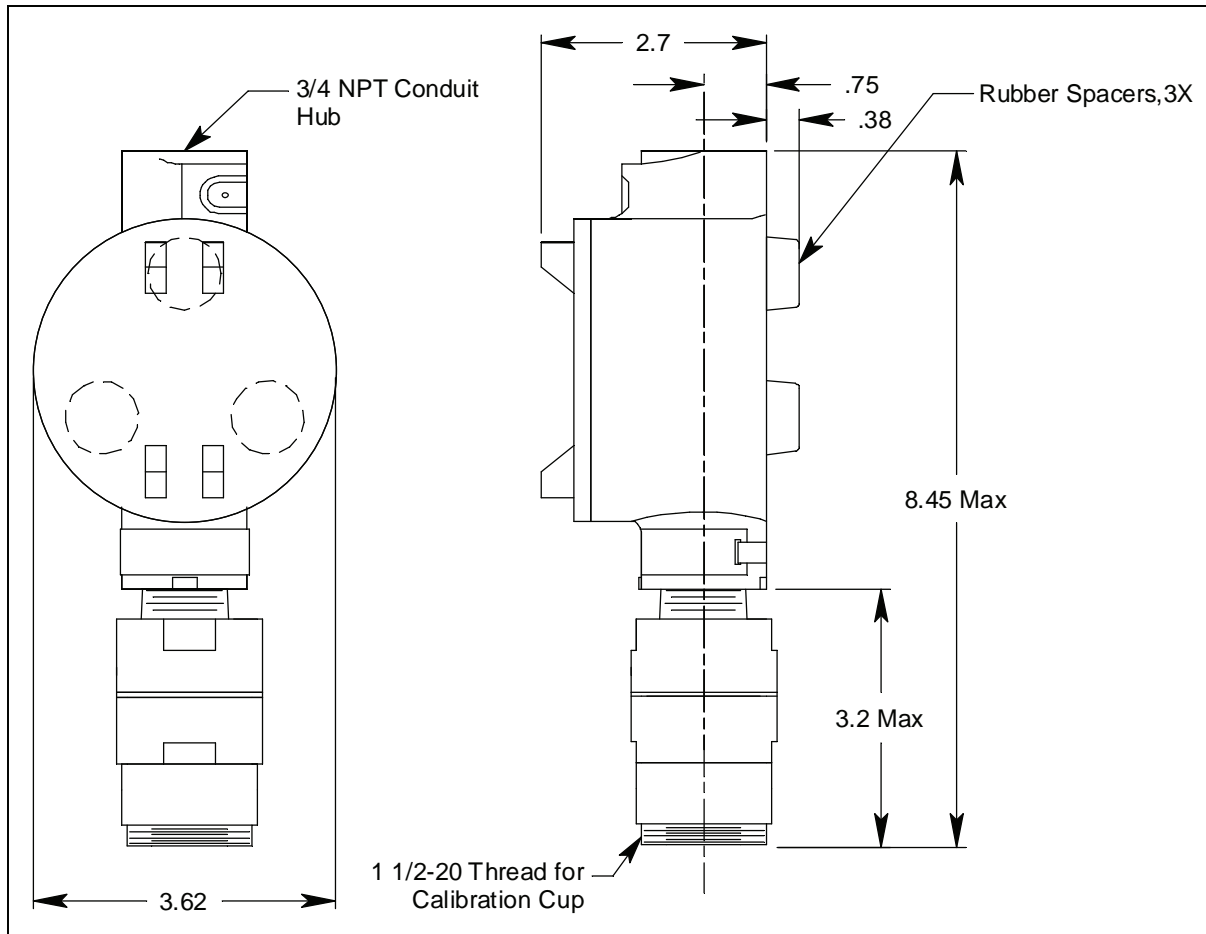

Figure 2: 65-2515RK Outline & Mounting Dimensions
NOTE: The oxygen detector in the 65-2515RK is normally provided with an Adalet XIHSCFC3 junction box rated explosion proof for Class I, Groups B, C, and D. This combination is shown in Figure 2 above. Any junction box with an internal volume less than or equal to 69 cubic inches and rated explosion proof for Class I, Groups B, C, and D may be used for this detector.
2. At the mounting site you select, hang or mount the junction box with the detector facing down (see Figure 2).